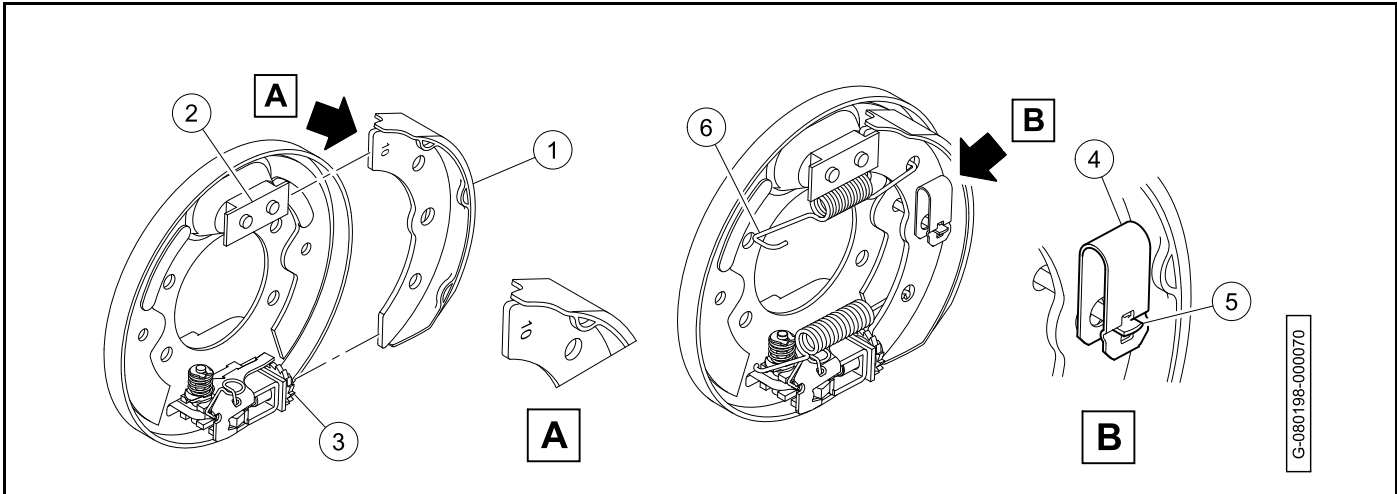

Figure 6-13
3. Install the first shoe (1) in the slots in the mounting block anchor piston (2) and the brake actuator (3) (**Figure 6-13**). Make sure that the stamped end of the shoe in the mounting block anchor piston. **See detail A.**